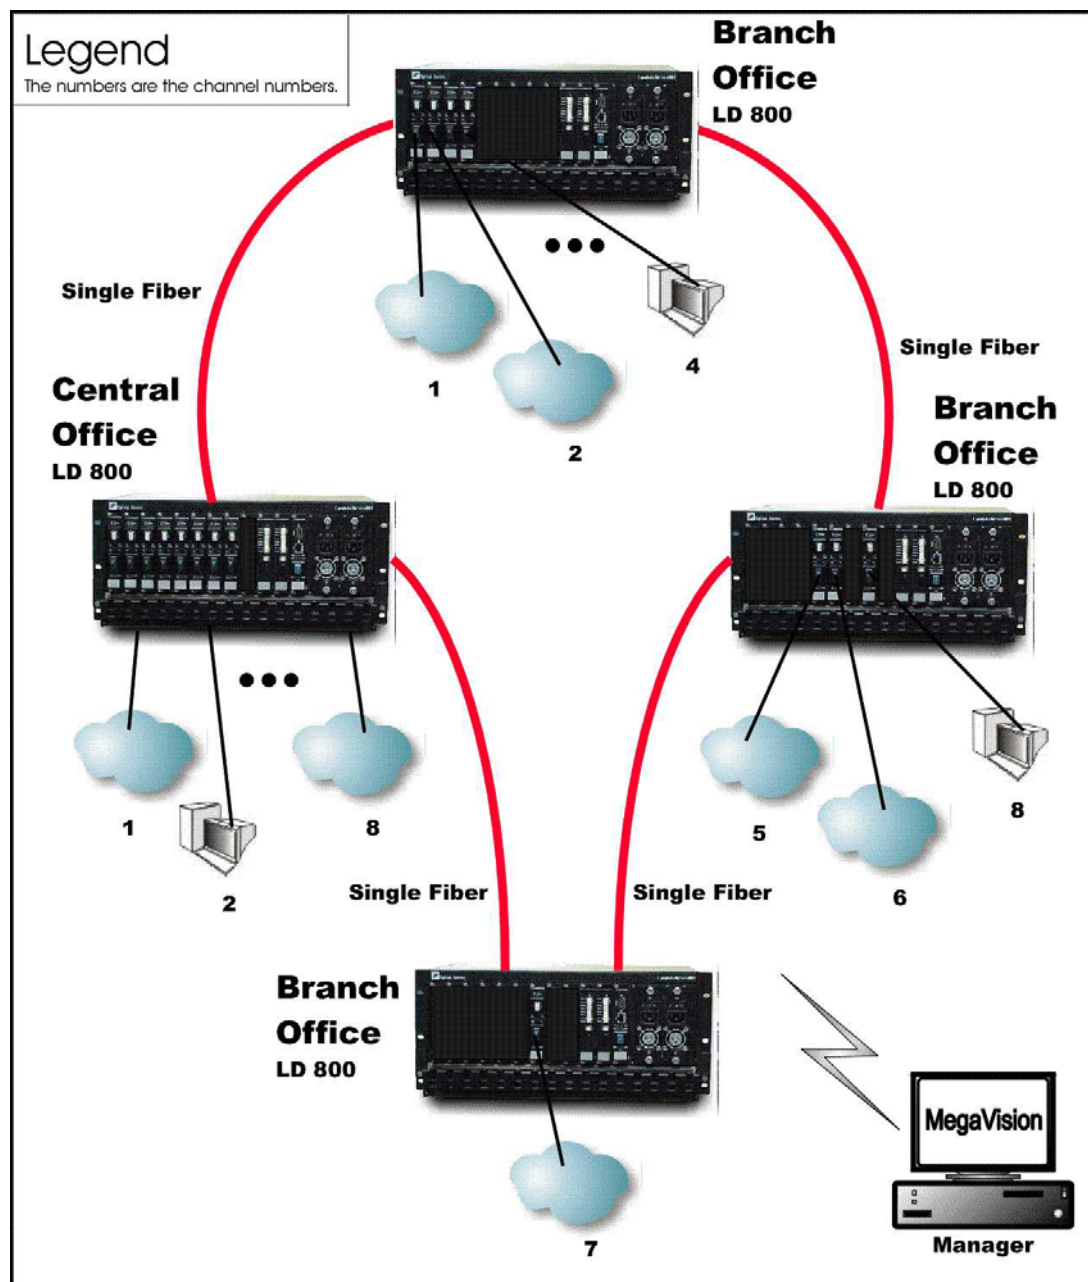

Figure 27: Central Office Ring with up to 8 Full-Duplex Channels
In Central Office Ring topology (example shown in *Figure 27*), up to 8 channels can be created across the network. This means that up to 16 access-equipment units (e.g., LANs, PCs, etc.) can be interconnected with this network topology – two per channel. Note that all channels run from the Branch Office (BO) LDx00s to the Central Office (CO) LDx00, i.e., no channels exist between the BOs.